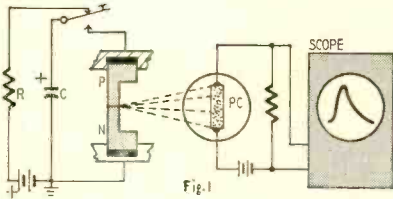

Fig. 1
In Fig. 1, the triodes are a 6SL7-GT tube. Triode V1 is a cathode follower, biased to respond primarily to a positive input. Negative swings are less effective since V1 goes into cutoff.
In Fig. 1, C charges through R when the key is left up. When the key is depressed, C discharges through the p-n junction. Positive charges are injected into the n region of the semiconductor, preferably at a rate exceeding 10
Fig. 1 also shows how the radiation is detected. A lead sulphide photocell (PC) is energized by a battery. When radiation strikes the cell, electricity is generated. After amplification, it is fed to an oscilloscope with a synchronized sweep. The visible pattern indicates energy amplitude vs. wavelength.